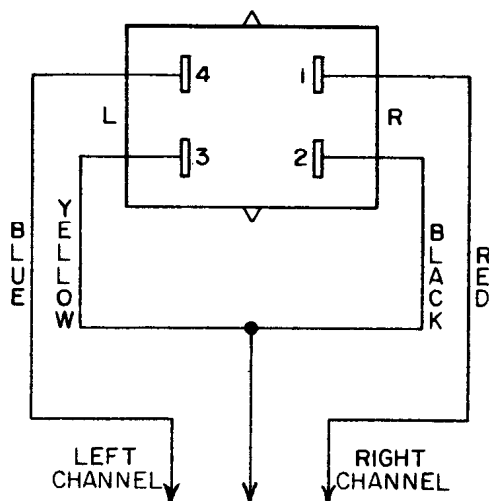

Figure 1 - Cartridge Wiring Diagram
1. Observe the sequence of wires, as shown in Figure 1. Remove the push-on connectors from the terminals.